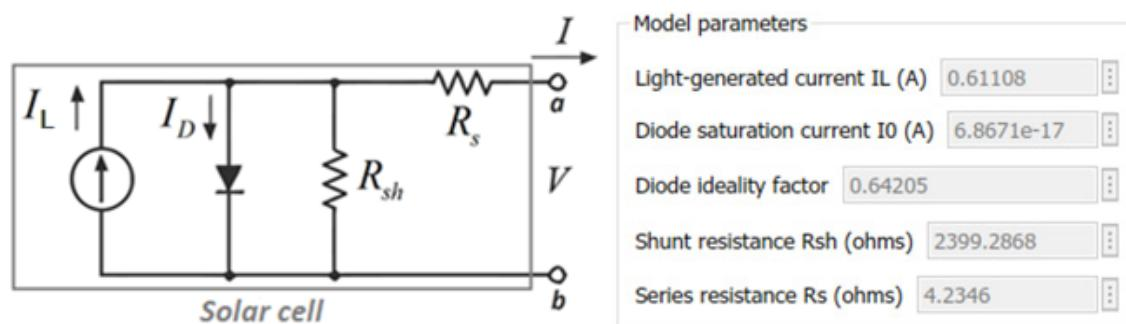

Figure 3.2. Model of a single cell and model parameters for each of the 36 cells of the 12-V 10-W solar panel to be used in Lab 3.
- A.1** Given the solar cell model3 and model parameters shown in Figure 3.2, calculate the maximum voltage available from each cell,  $v_{oc}$ . Note that the open circuit voltage,  $v_{oc}$ , is the voltage across the solar cell when the current through it is zero (i.e., when there is nothing connected to terminals *a-b*) and can be analytically calculated as: